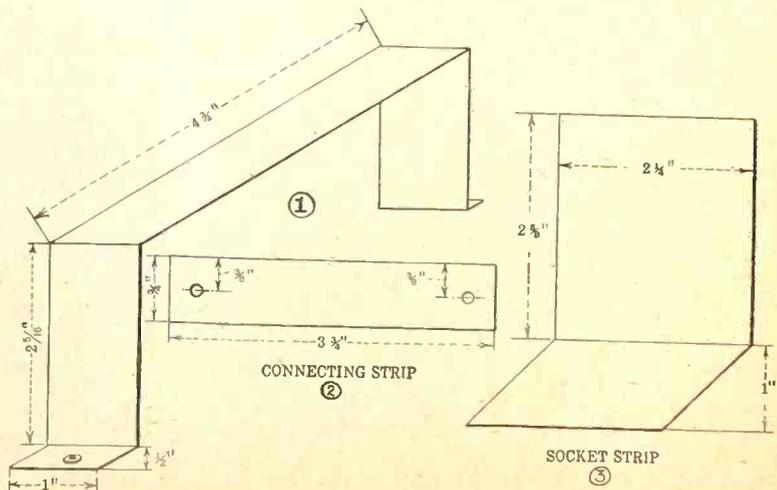

FIG. 4, showing the different dimensions of the aluminum strips required.
Procure an aluminum strip,  $9\frac{3}{8}$ " long and 1" wide. Bend as per Fig. 4. (1). This strip is used for mounting the condenser bank and the sockets. Drill holes for mounting the sockets. The exact positions of these holes will not be given as they vary for different sized sockets,
no special make being necessary. Lay this aside. Now procure two pieces of aluminum stripping,  $3\frac{3}{4}$ " in length and  $\frac{3}{4}$ " in width, Fig. 4 (2), used for con-
necting the laminations of the choke coils, using the closed core style (Fig. 6). The last piece of stripping required is that for the socket. This is  $3\frac{5}{8}$ " in length and  $2\frac{1}{4}$ " in width and is seen in Fig. 4 (3). By following the template, shown last week, the holes for the mounting of the strip on the baseboard, may be obtained. For the positions of the holes holding the input voltage socket, it is best to make the measurements direct from the type of socket employed, as the size and positions vary.
holes are for the mounting of the panel on the baseboard, as per Fig. 4, last week.